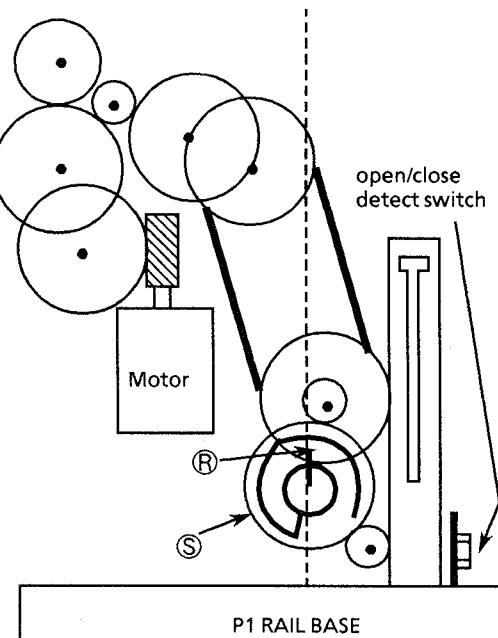

Fig 13
2. Rotate the gear ① clockwise a little.
5. Remove the screw fixing the open/close sw by inserting a thin driver from ⑦ hole to remove the Front door indicator assembly.
6. Pull the P1 RAIL BASE by pulling up the hook ⑧ slightly.
- * Install gear ⑤ so that part ⑥ shown in fig.13 is perpendicular to the P1 RAIL BASE.